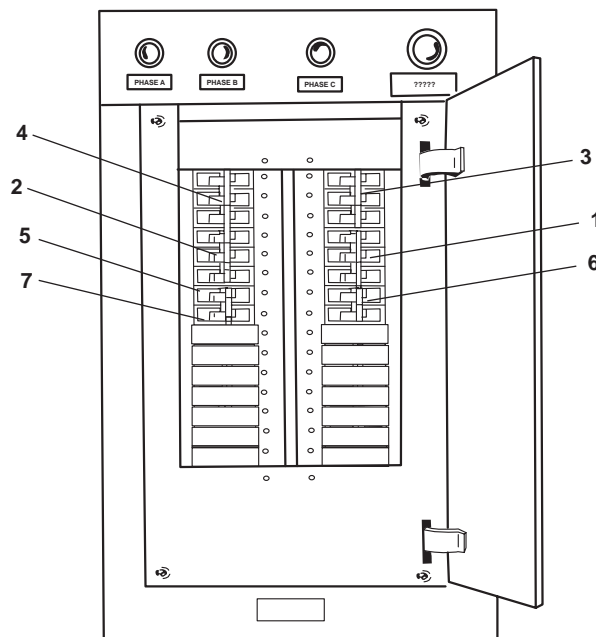

Figure 10. 220/120V Distribution Panel
- a. CREW'S MESS TOASTER. (figure 10, item 1)
- b. GALLEY TOASTER. (figure 10, item 2)
- a. CREW'S MESS TOASTER (figure 10, item 1)
- b. GALLEY TOASTER (figure 10, item 2)